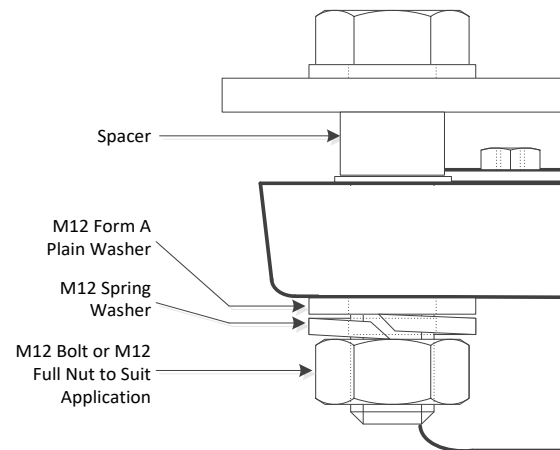

Figure 1: APC Receiver mounting assembly
6. Mount the new unit with the four retained M12 mounting bolts, washers and spacers, according to Figure 1 below, and torque to the relevant torque value